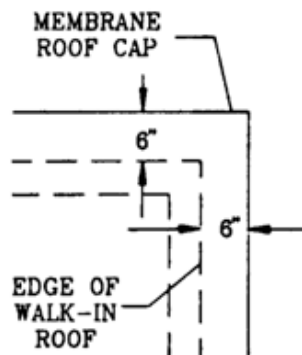

Figure 18 - Vinyl Weathercap Layout
3. With the smooth finish side of the vinyl roof cap up (tabs on underneath side) mark 6" in from each side and end of the vinyl weathercap (Refer to Figure 18). This will aid in alignment and allow the proper 6" overhang around the perimeter of the walk-in.